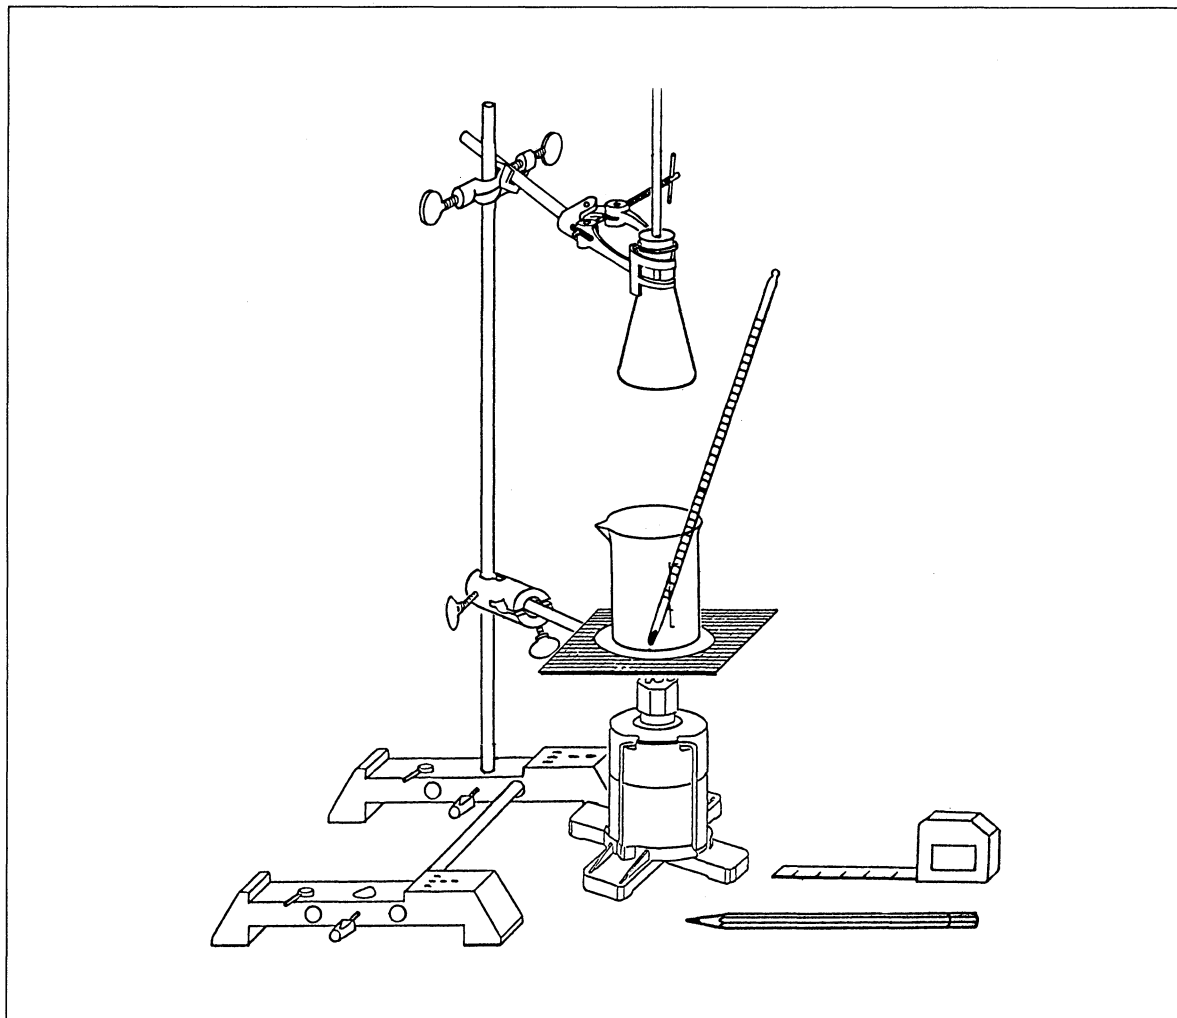

Fig. 1 Experimental setup for heating air
1. Set up the apparatus as shown in fig. 1.
9. Clamp the conical flask in the clamp. Position the butane gas burner underneath it, with the wire gauze directly above the burner as shown in fig. 1.